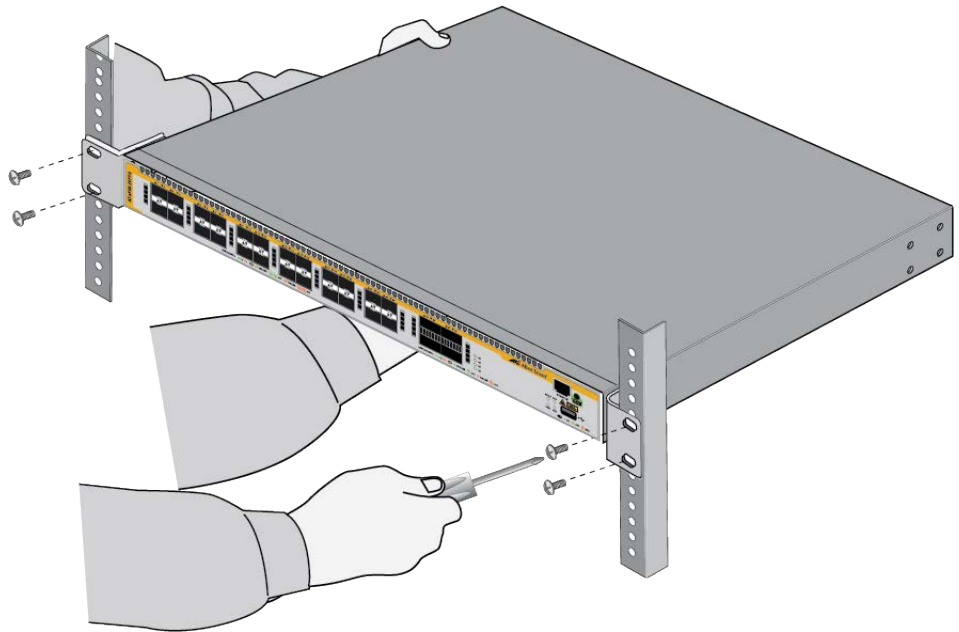

Figure 18. Installing the Switch in an Equipment Rack
6. Have another person hold the switch in the equipment rack while you secure it using standard rack screws (not provided). See Figure 18.